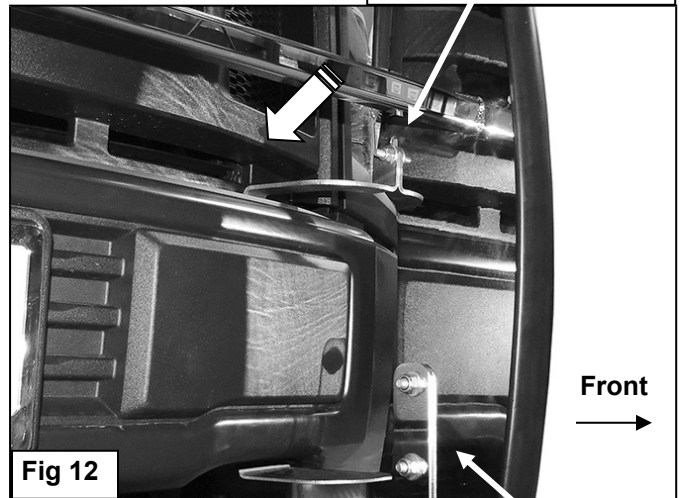

Fig 12
5. With assistance, place the Grille Guard up to the outside of the Frame Brackets. Attach the Grille Guard to the Brackets with (4) 10mm x 30mm Hex Bolts, (8) 10mm Flat Washers and (4) 10mm Nylon Lock Nuts, **(Figure 12)**. Snug but do not tighten hardware at this time.
7. Line up the driver side Top Bracket with the hole in the upright on the Grille Guard. Attach the Bracket to the Grille Guard with (1) 8mm x 30mm Hex Bolt, (2) 8mm Flat Washers, (1) 8mm Nylon Lock Nut, **(Figure 12)**.